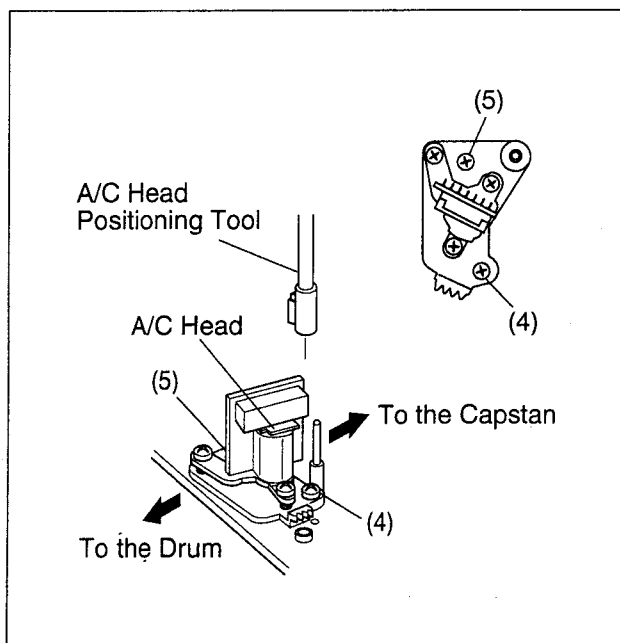

Fig. 2-8-6
- (1) Play back the alignment tape (A1).
- (2) Apply the external trigger signal to D.FF (E), to observe the V.PB FM waveform at the measuring point (D).
- (3) Press the channel buttons (+, -) simultaneously to enter the manual tracking mode. (This also brings tracking to the centre.)
- (4) Loosen screws (4) and (5) so that the A/C head positioning tool is set as indicated in Fig. 2-8-6.
- (5) Turn the A/C head positioning tool fully toward the capstan. Then turn it back gradually toward the drum and stop on the first peak point position of the V.PB FM waveform output level. Then tighten the screw (4) temporarily.
- (6) Then play back the alignment tape (A2).
- (7) Press the channel buttons (+, -) simultaneously to enter the manual tracking mode. (This also brings tracking to the centre.)
- (8) Perform the tracking operation and make sure that the V.PB FM waveform is at its maximum.
- (9) If it is not at maximum, loosen the temporarily tightened screw (4) and turn the A/C head positioning tool to bring the audio control head to a position around where the waveform reaches its maximum for the first time. Then tighten the screws (4) and (5).